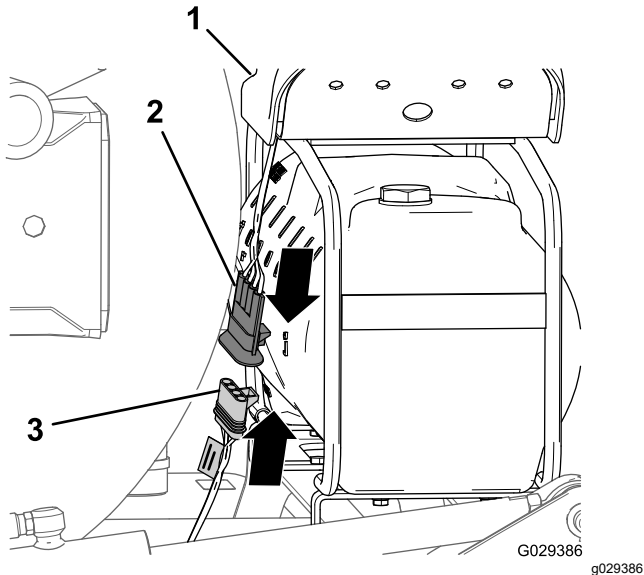

Figure 183
1. At the end of the 236 cm (93 inch) branch of the wire harness, align the 4-socket connector of the wire harness for the finishing kit with the 4-pin connector of the wire harness from the compressor (Figure 183).
2. Insert the 4-pin connector into the 4-socket connector (Figure 183).